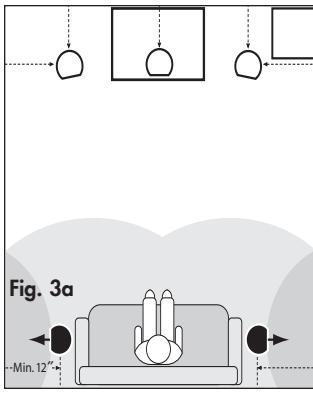

Fig. 3a
2.74m). Point the tweeter toward the primary listening position. For overall clarity and balanced bass performance, these speakers should be mounted in the ceiling 12 inches (30 cm) or more from the wall, as shown in Figs. 3a to 3f.
Front Channel Placement (Fig. 3a & 3b)